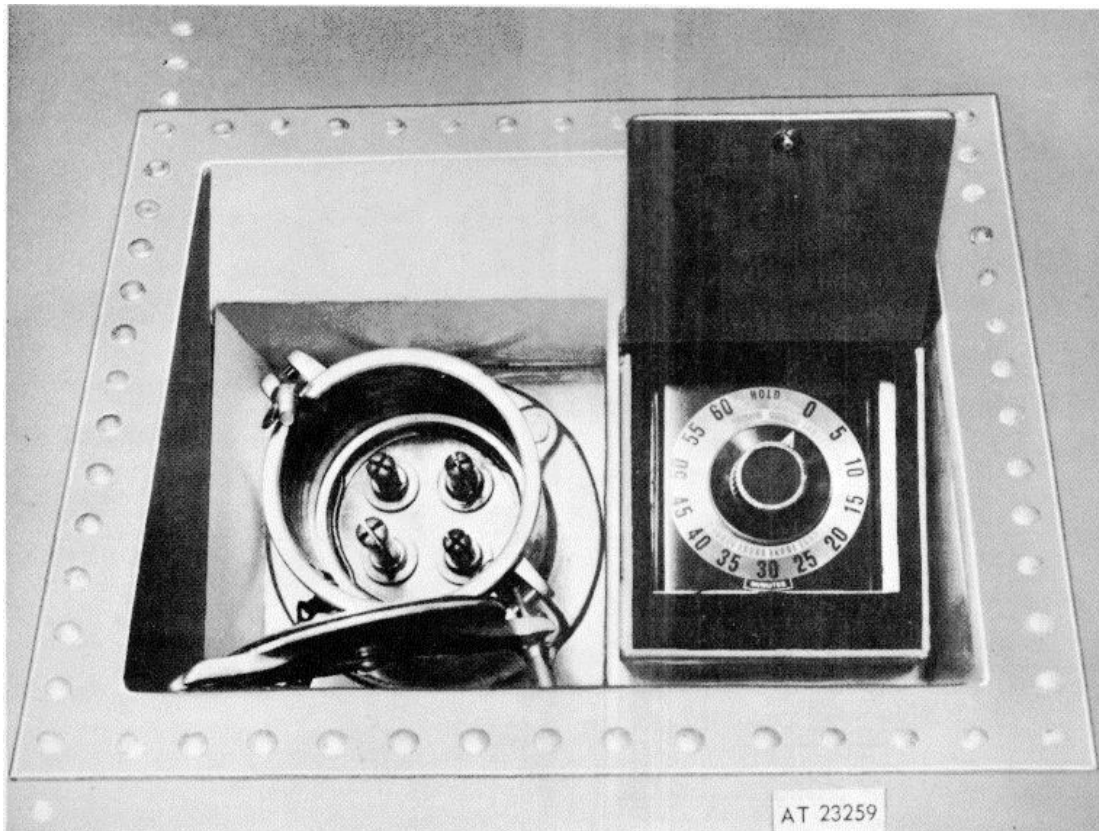

Figure 4-20. External power entry receptacle and time clock. XM822.
#### 4-16. External Power Entry Receptacle, XM822 (fig. 4-20)
(2) Align holes in receptacle (17) with holes in chassis and secure with four bolts (20), washers (19), and nuts (18).
**4-17. Semitrailer Purging Time Clock, XM822 (fig. 4-20)**
(1) A time clock used in the purging of the semitrailer is located on the exterior of the XM822 semitrailer at the rear, roadside, next to the power entry receptacle.
(2) Van purging instruction is located adjacent to the time clock.
(3) All exterior doors have warning plates cautioning personnel to purge the van before entering.
(4) The purging circuit breaker is always ON.